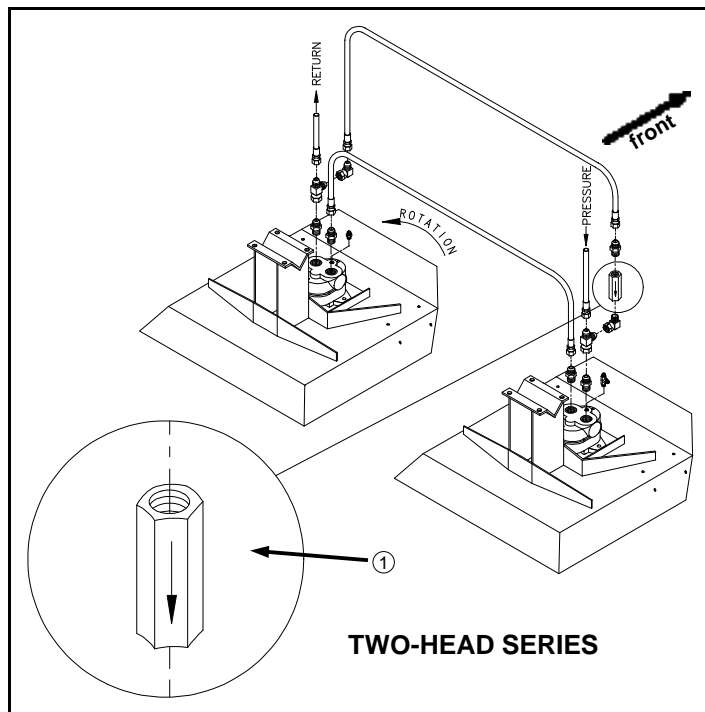
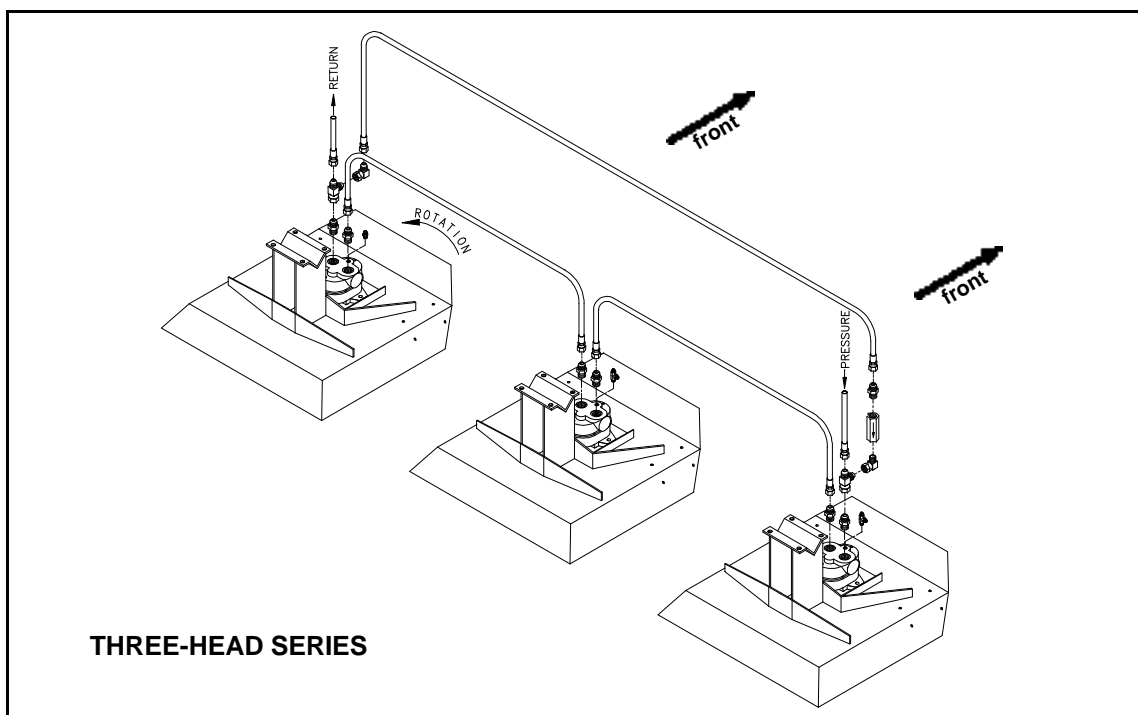

FIG 4.19
FIG 4.20
Hydraulic hoses on cutter heads should be hooked up so blades on heads mounted left of operator rotate according to figure 4.19 and figure 4.20 (counter-clockwise from above). Refer to 204 SP DETASSELER Parts Manual for correct hardware, hose lengths, and hydraulic schematic.
Care should be taken when installing check valve (fig. 4.19, item 1) on cutter motor so the flow arrow is oriented correctly (either two-head or three-head series).